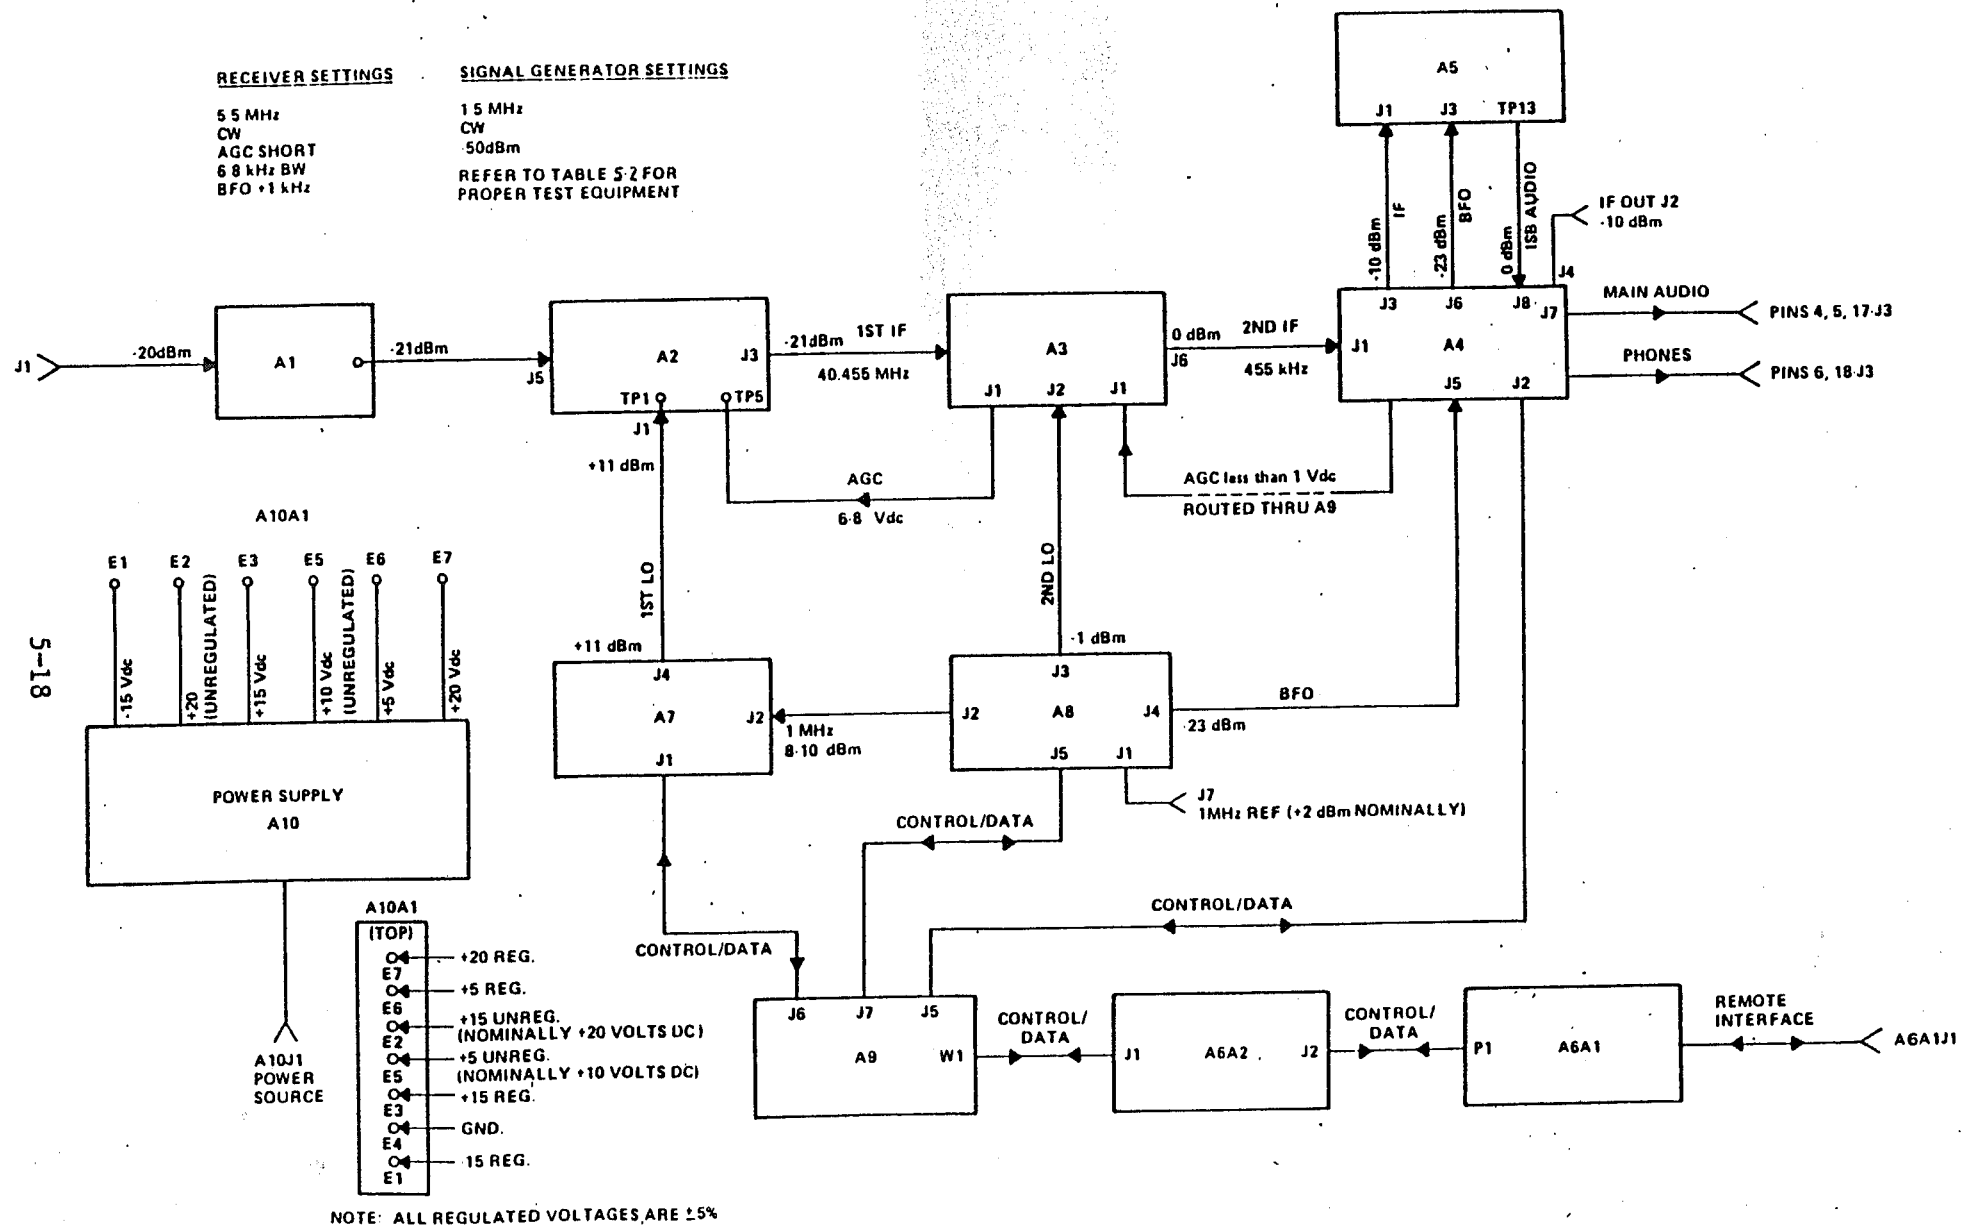

Figure 5-2. Typical Signal Levels, RA6790/GM HF Receiver
Figure 5-2 shows signal flow between individual circuit cards, and the jacks and/or test points for measuring signal values. This information, along with the BITE check detailed in Paragraph 5.4.2 and the Performance Tests detailed in Paragraph 5.5 should be used in isolating malfunctions to the board level. Receiver settings, signal generator settings, and connector pin location diagrams are shown as part of Figure 5-2. The following procedures should be used to perform signal level tests:
1. Set signal generator outputs as specified in Figure 5-2.
2. Set receiver front panel controls as specified in Figure 5-2.